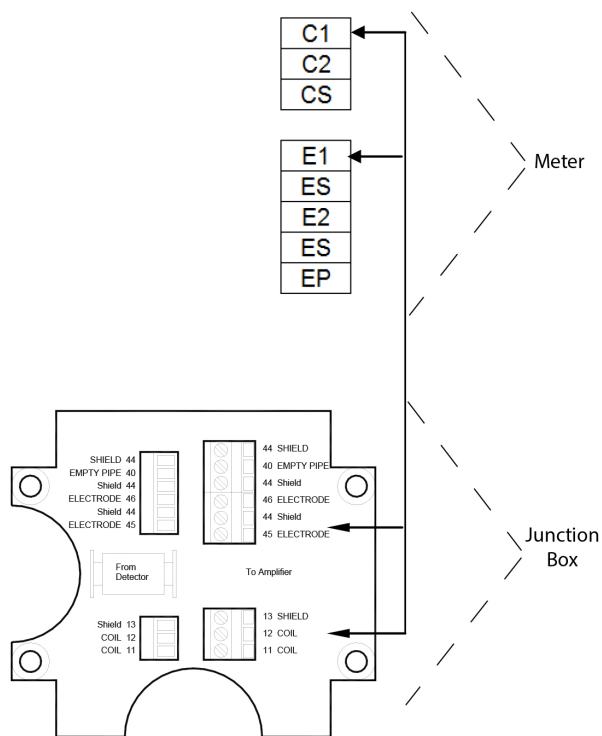

Figure 21: Remote version connection
3. Connect as shown in Figure 21.